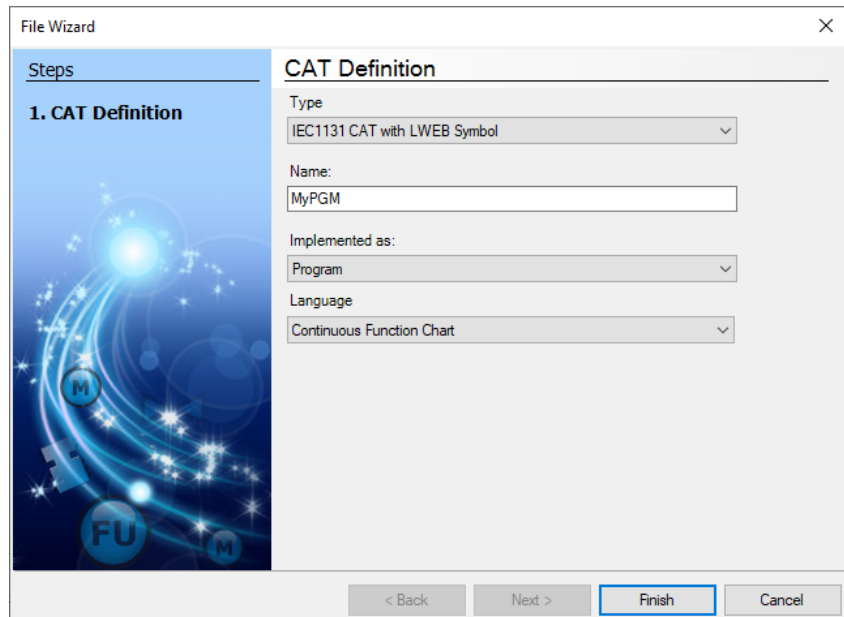

Figure 53: Create a 61131 program CAT.
- Create a 61131 program CAT: In the 'KickStart' solution tree, select **CAT** → **Application**. Then right-click and choose **New Item**. Select IEC61131 CAT, enter a name, and select **Program** as implementation and **Continuous Function Chart**. Then click **Finish** as shown in Figure 53.